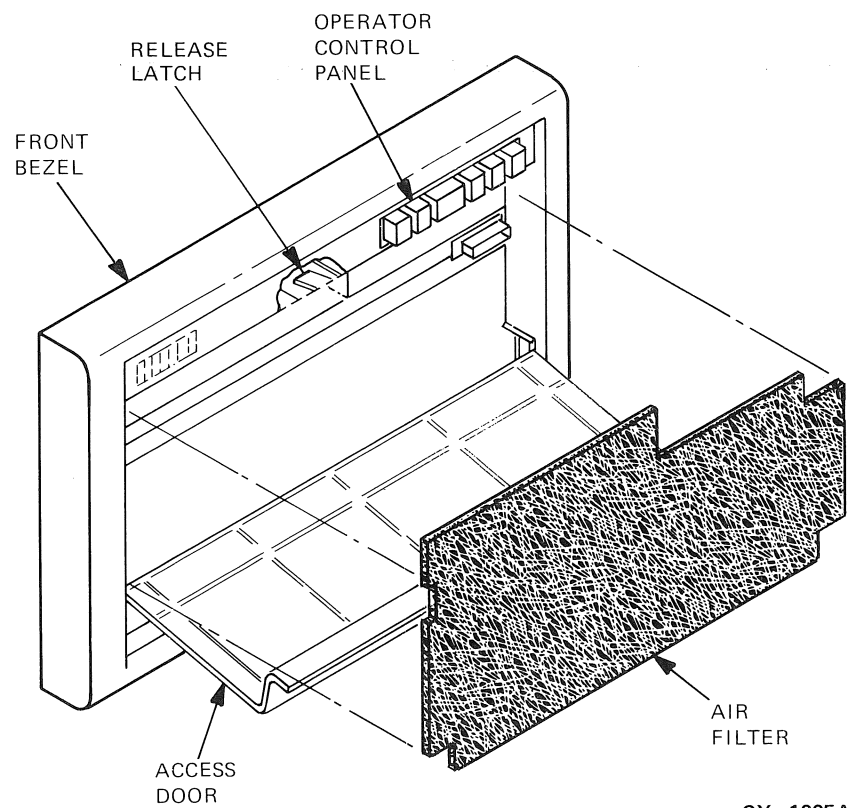

Figure 2-8 Air Filter Removal
1. While gently pushing the release latch under the operator control panel, pull down the access door on the front bezel of the drive to reveal the air filter. Refer to Figure 2-8.
2. Close the access door by swinging it up into the front bezel until the release latch snaps into place. Make sure the access door is secured in place by the release latch. Refer to Figure 2-8.